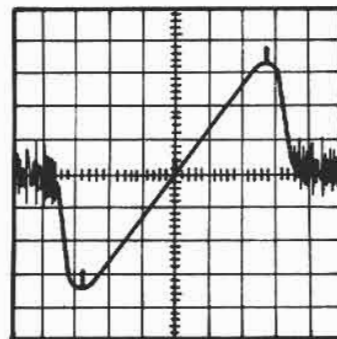

Fig. 16
3. Adjust the primary and secondary of T101 so that wave form to be "S" curve as figure 16 and to be maximum gain.